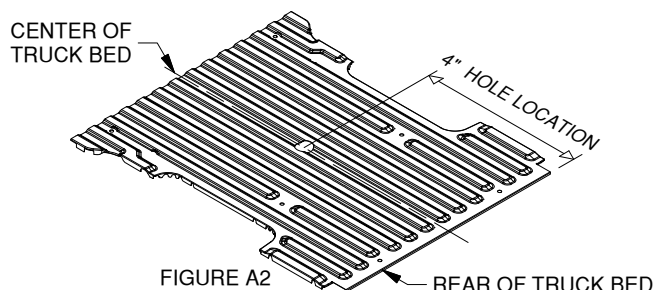

FIGURE A2
6. **Mark the 4" hole location.** Using a tape measure hooked over the rear edge of the bed (at tailgate end), measure the location for the hole as shown in figure A2. Next, locate the center of the bed by measuring the distance between the wheel wells and dividing by two. The center of the hole will be at the intersection of the center of the bed and the first distance measured.